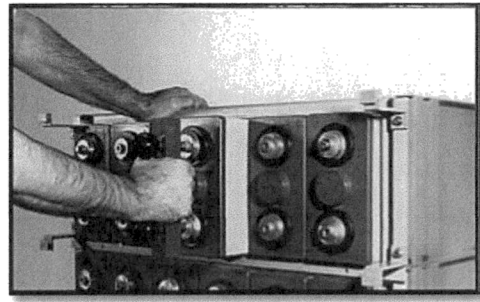

Figure 6-7 Removing a Cell
9. Pull the cell straight out onto the platform, shown in Figures 6-7 and 6-8.